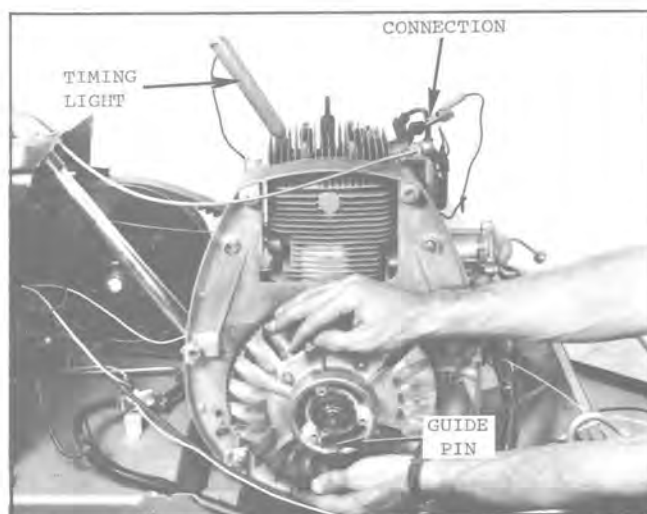

Fig. 41 — Checking Ignition Timing with Suitable Lamp
- d. Disconnect black and blue wires (same connection) from the ignition coil and disconnect the opposite end of the black wire from the ignition switch. Connect a suitable test light to the blue wire (connection near the ignition coil) then rotate the flywheel slowly clockwise (facing flywheel) while noting the timing gauge and the test light. See Fig. 41. If the timing is satisfactory, the light should *dim* when the piston is between: